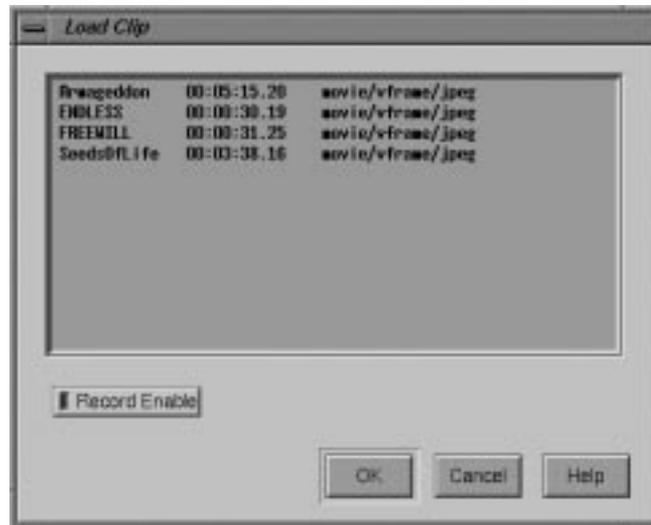

Figure 5-3 Loading a Clip Into the Logical VTR
- Click the *Load* button in the Media Server Control Panel. A window that lists the clips in the media server cache appears, as shown in Figure 5-3.